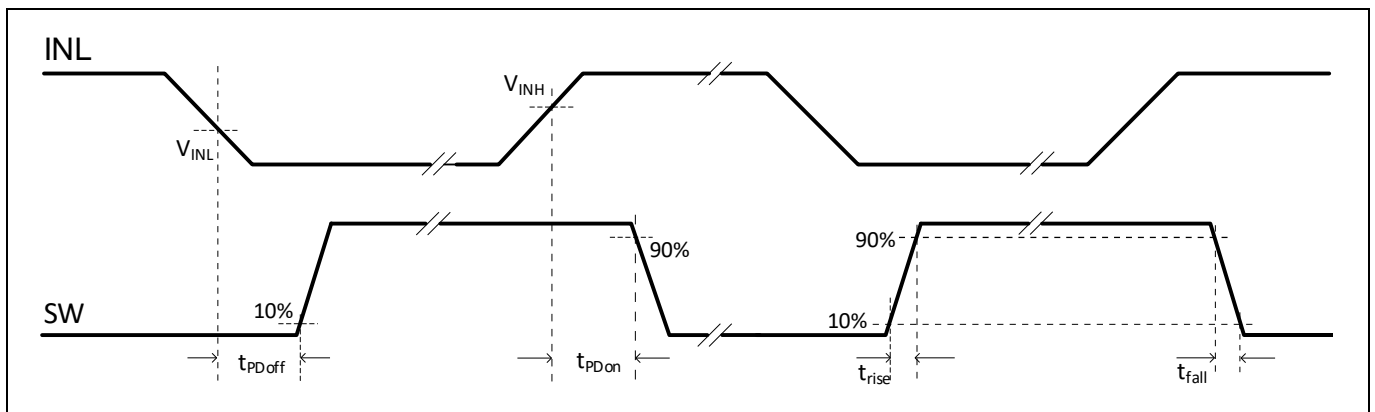

Figure 4 Propagation delay, rise and fall time
**Table 16 Dynamic Characteristics2 (see Figure 4, Figure 5)**
Figure 4 depicts rise, fall and delay times measured at the GaN half-bridge output SW. Figure 5 shows the associated test circuit. The power stage is operated in a boost configuration at a constant current  $I_{load}$ . In this so-called double-pulse arrangement  $I_{load}$  is determined by the high-voltage supply (400 V), the output inductance and the length of the first “on”-phase of the INL-signal. The specified delay and transient times are related to an  $I_{load}$  value of 2 A (particularly the “off” transient strongly depends on this current). INH need not be switched for this measurement.